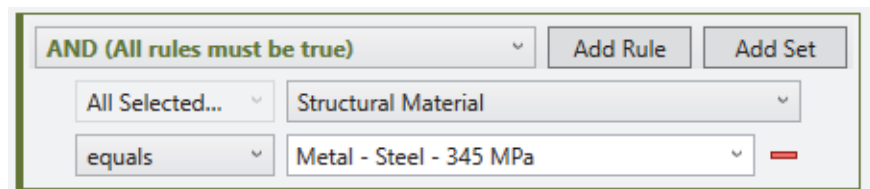

Figure 1–129
11. Modify the *Filter Rules* to **Structural Material > equals > Metal - Steel - 345 MPa**, as shown in Figure 1–129.